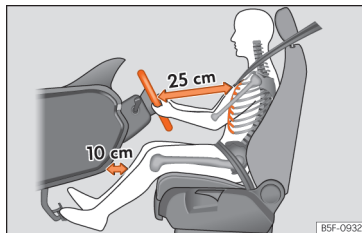

Fig. 21 The correct distance between the driver and the steering wheel must be at least 25 cm [10 inches].
- Adjust the steering wheel so that it is at a distance of at least 25 cm [10 inches] from the sternum **>>>** Fig. 21 and can hold it with both hands on the sides, on the outside, with the arms slightly flexed.